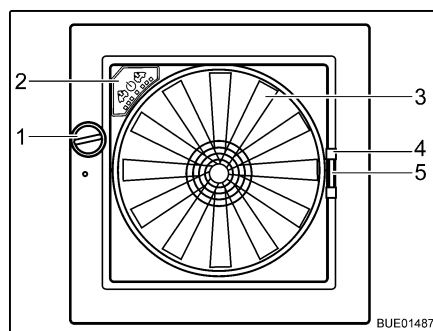

Fig. 101 Omni-Vent skylight
- Turn the knob (Fig. 101,1) until the desired opening angle is reached.
- Turn the knob (Fig. 101,1) until the skylight is fully closed.
- Using the handle (Fig. 101,4) pull the insect screen across to the other side of the frame.
- Press together the handle (Fig. 101,5) of the shade.
- Fan** If the skylight is open, the interior can be vented and aerated with the 6-speed fan (Fig. 101,3). The fan is operated via the operating panel (Fig. 101,2).